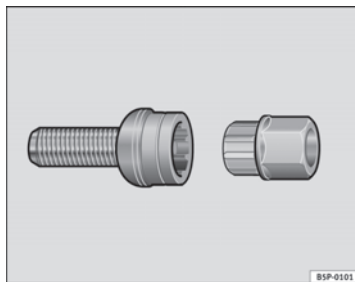

Fig. 159 Anti-theft wheel bolt
- Insert the adapter onto the wheel bolt and push it on as far as it will go ⇒ fig. 159.